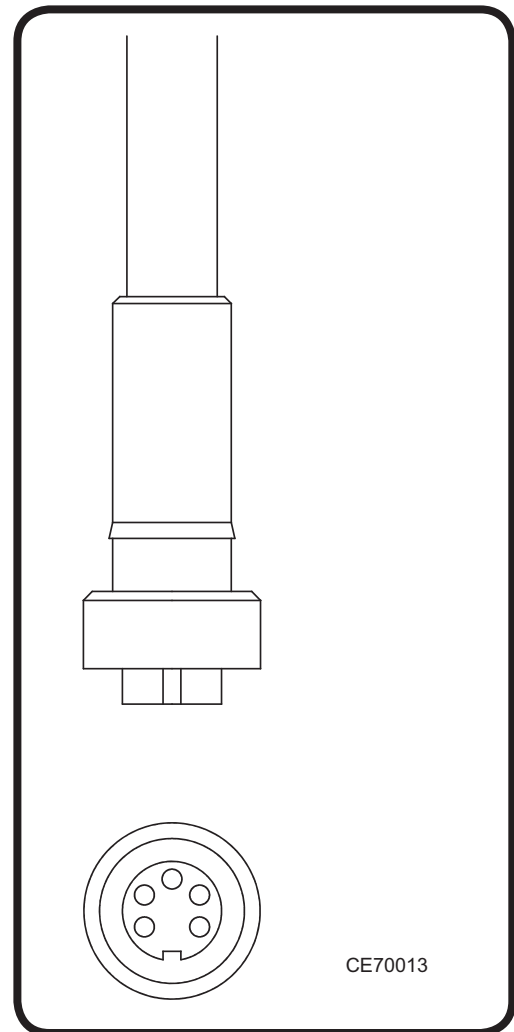

Figure 8: Installing the Burner Cord
- (4) Refer to Figure 8
- (5) Line up the key in the receptacle with the slot in the cord.
- (6) Tighten the electrical cord when in position.